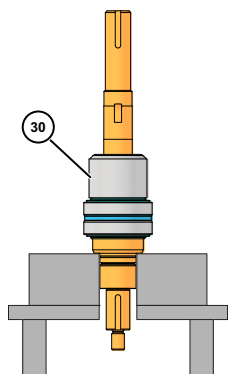

Figure 52 - Install Bearing Spacer
9. Install the bearing spacer (Figure 52, item 30).